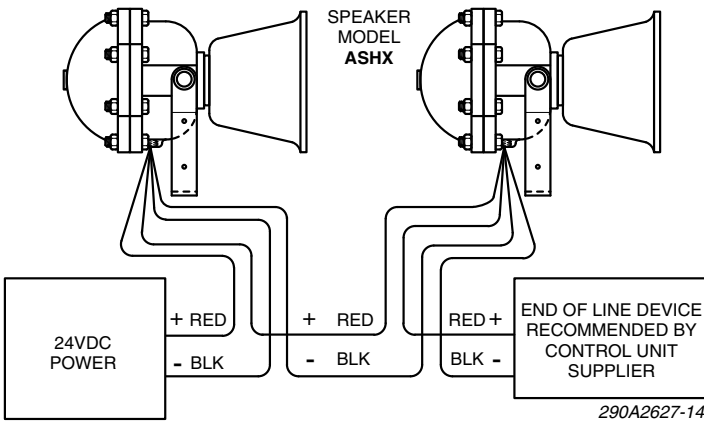

Figure 3: Typical tone card installation wiring
2. See figure 3. Connect the device's red (+) leads to the power source positive (+) lead. Connect the device's black (-) leads to the power source negative (-) lead.